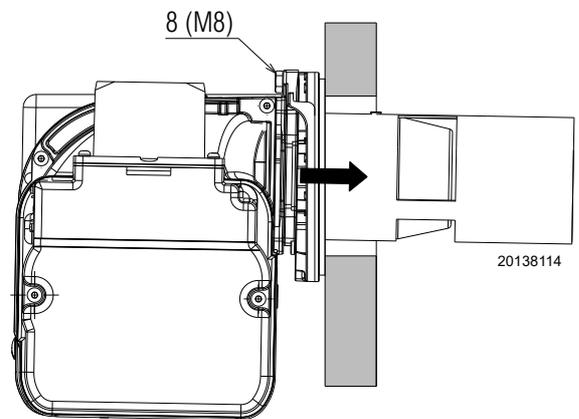

Fig. 9
- Insert the burner, and fix it in place with the nut 8)(Fig. 9).